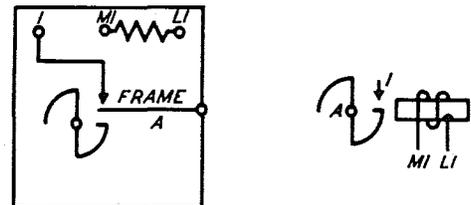

FIG. 66 - WINDING AND SPRING TERMINAL ARRANGEMENT AS VIEWED FROM THE REAR (TERMINAL SIDE)-34 TYPE SIGNAL
4.17 The contact and winding terminals of signals are shown as indicated in Figs. 66, 67 and 68.